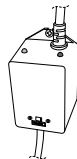

FIGURE 8
20. Once power is activated you can check the ballast (12), Figure 8, to see if the CLEARRAY System is functioning; it has two LED indicator lights the green indicating incoming power flow and the red indicating the system is properly working.